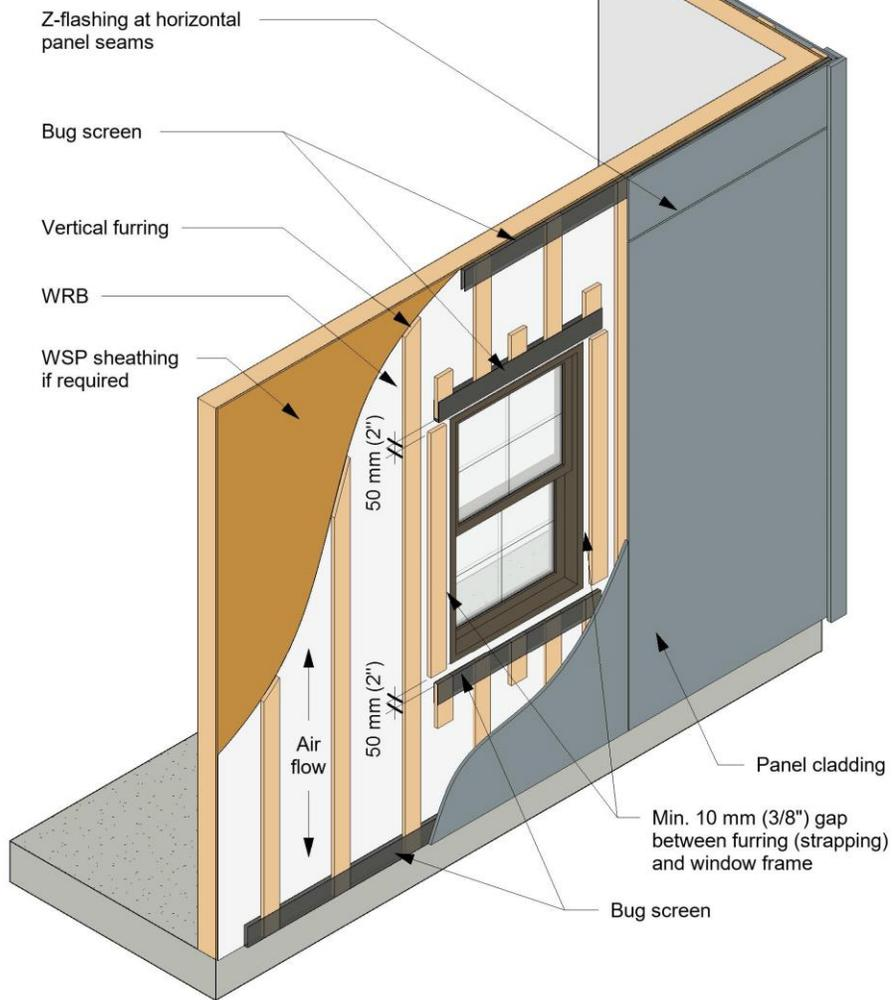

Figure 6
- Openings at the top and the bottom of the wall should be open to the outside air and protected with insect screen. (Figures 6, 7, 10 & 11)